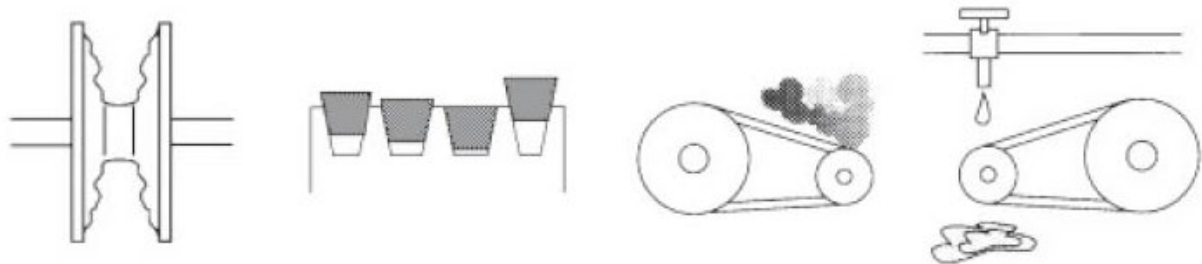

Figure 209: Unfavorable operating conditions (3)
- Slippage / pulley too small / overloading / damaged disc / eccentricity, wobble – **Figure 209**